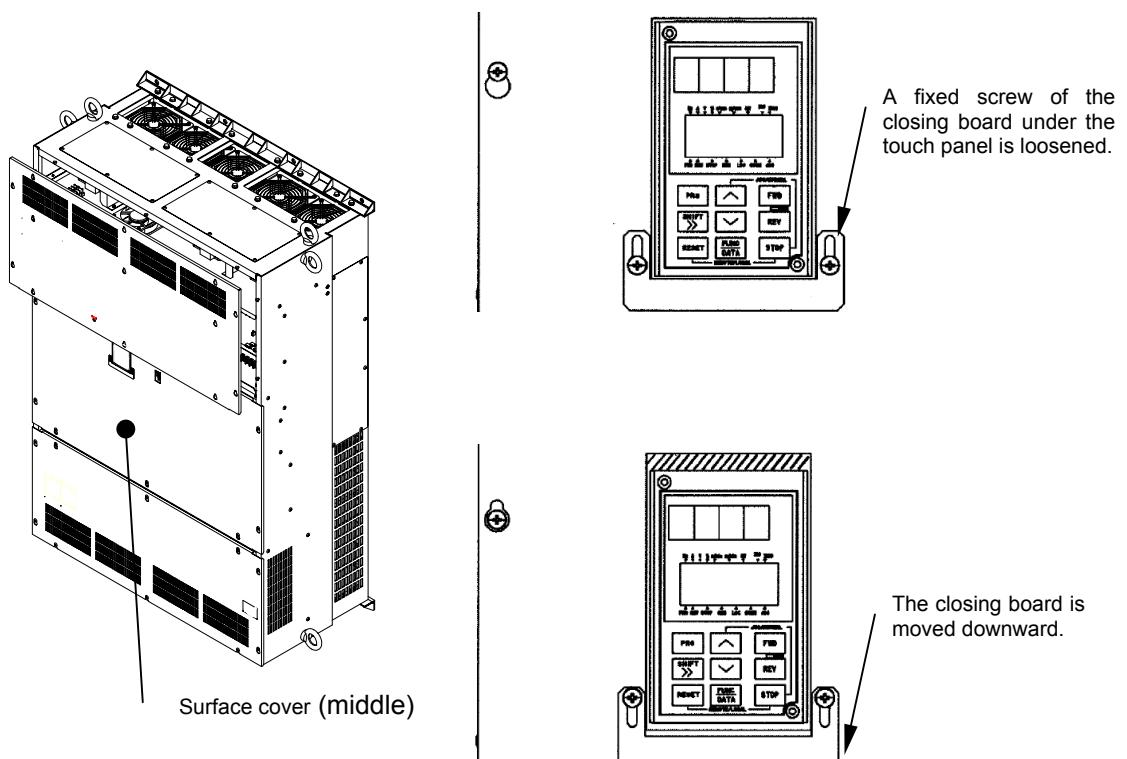

Figure 1-3-3 Removal of Surface Cover (500kW or higher)
After removing the face cover in step (1), loosen the KEYPAD panel fixing screws. Remove the KEYPAD panel as shown in Figure 1-3-3.